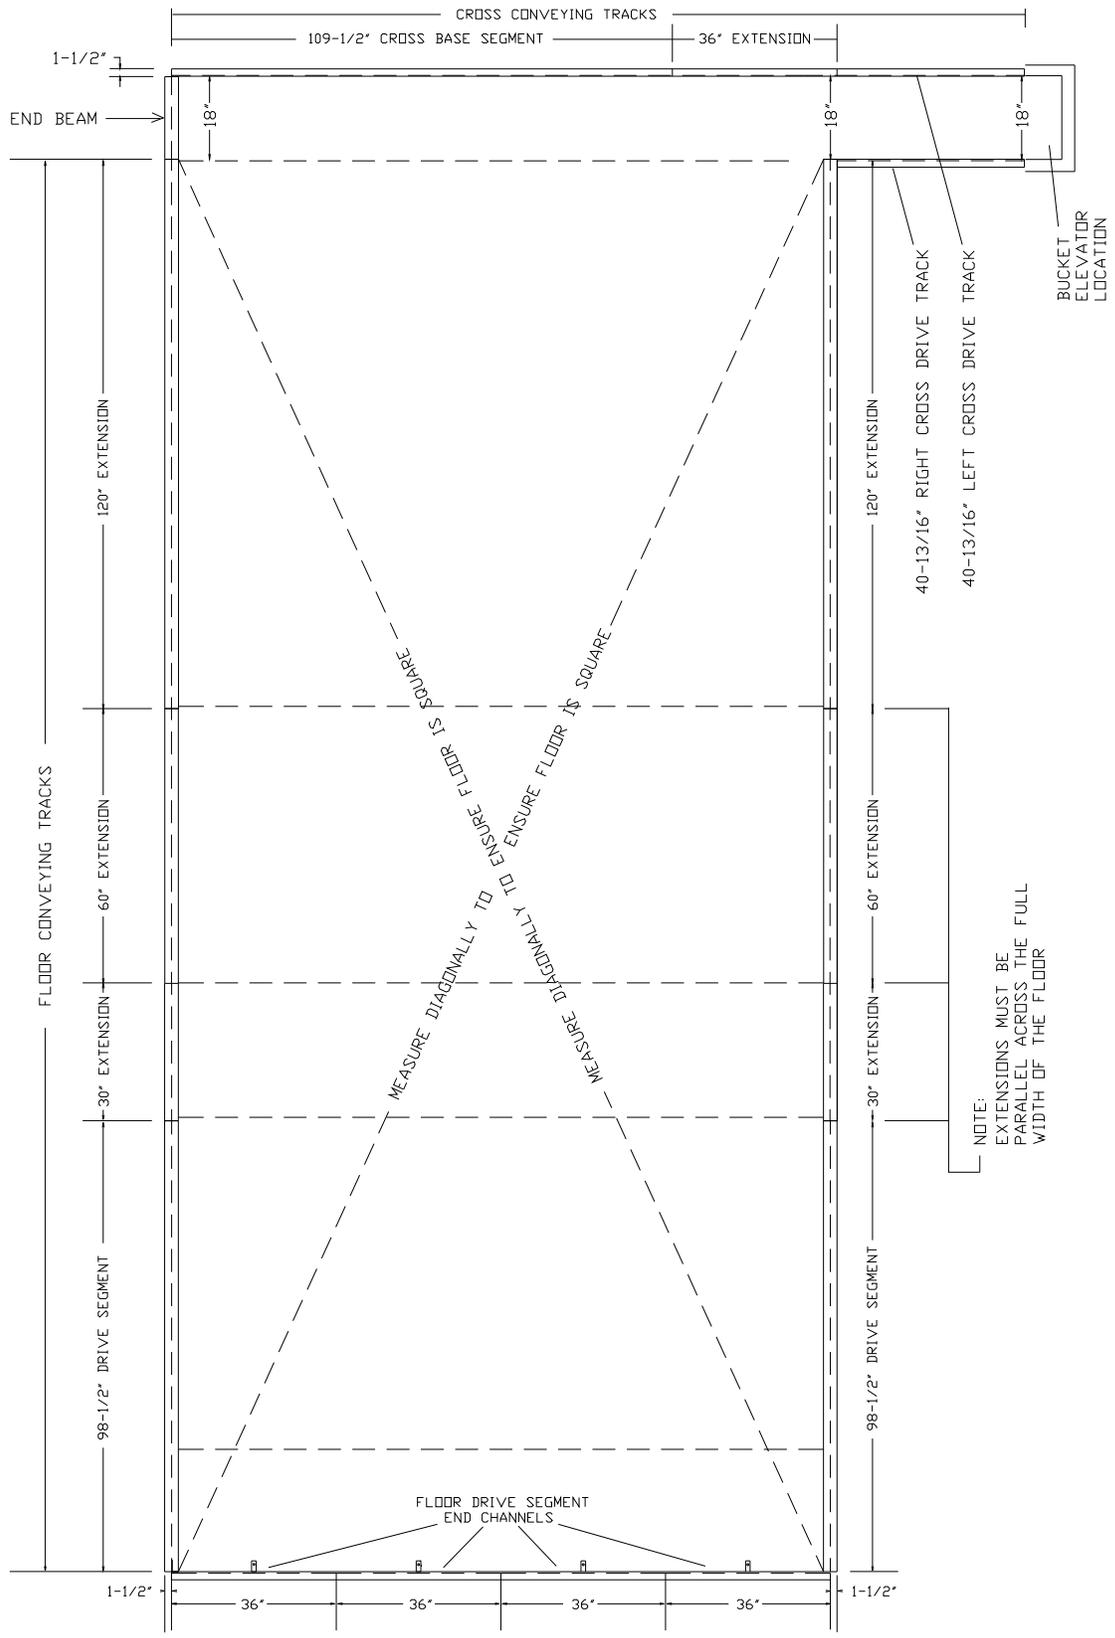

Figure 7
2.4 Perimeter Tracks, Ref. Figure 7
2.4.2 Place the cross conveyor tracks (C channels) as shown in Figure 7. Beginning at the elevator location, place the left and right hand cross drive tracks, cross extensions (if used), and the cross conveyor base segment. The flat side of the cross conveyor tracks must face the inside of the floor recovery area.
2.4.8 Place the drive-segment end-channels in position as shown in Figure 7. The cylinder mounting tabs must face the floor area and be on the lower side when the channels are right side up.
2.4.12 Square the perimeter tracks. Make sure that the sides are parallel. Check diagonally to make sure the perimeter is square, by measuring from the points shown in Figure 7.
2.5.1 Position all the inside tracks on the floor. The track extensions for each section must be positioned in the same order and parallel to the perimeter track extensions. See note in Figure 7.
2.5.4 Make sure each section is square and parallel, per the illustrations in Figures 7 and 12. The 36-inch dimension between the floor track rails is measured from center to center.